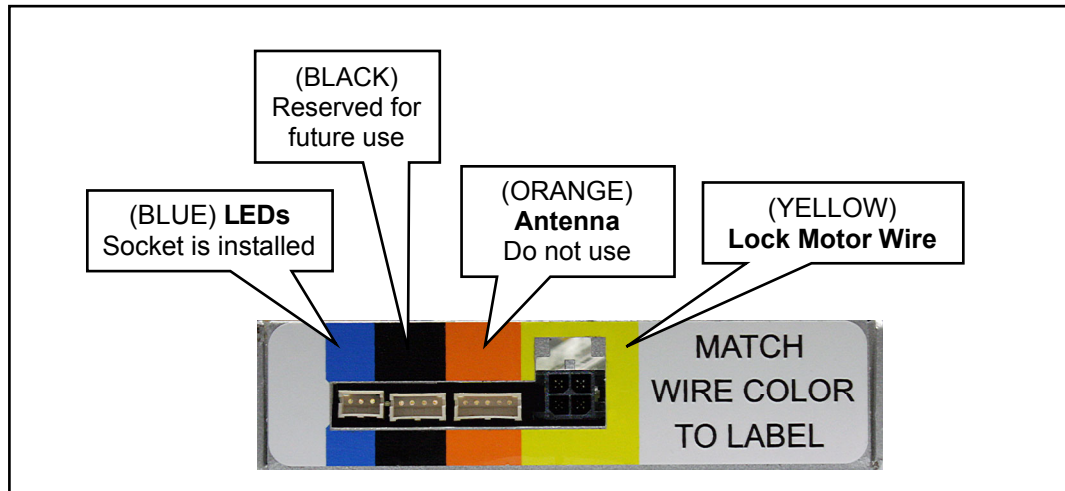

FIG. 9: MORTISED NETWORKX CONTROL MODULE CONNECTIONS
Observe the rear of the **Mortised Networkx Control Module** with its four (4) dissimilar sockets. Only the yellow **Mortise Lock Motor Wire** needs to be connected. **Note:** The **Black** socket is currently not used and is reserved for future use; the **Blue** socket is already installed at the factory; the **Orange** socket must remain unconnected. See Fig. 9.